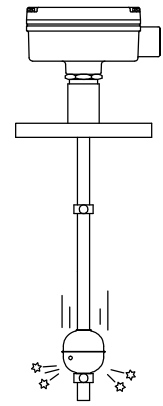

Fig.6
- (2) Be careful not to sag the stem when carrying the sensor. Be extracareful with a sensor having a long stem.
- (3) Do not make the float fall to strongly hit the flange or the stopper. (Fig. 6)
- (4) Do not throw, drag, or give strong shock to the sensor.